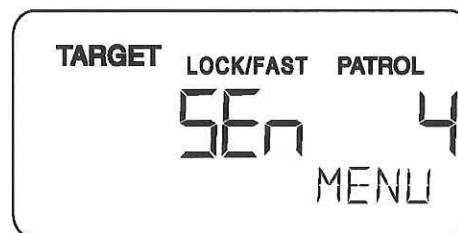

Fig. 3
The sensitivity of **STALKER II** is adjusted by pressing the **MENU** key a second time. The **▲** and **▼** keys then cycle through the five (5) sensitivity levels: **SEN 0**, **SEN 1**, **SEN 2**, **SEN 3**, and **SEN 4** (Fig. 3 shows sensitivity level 4, the factory default setting). In each case, the right-hand display refers to the current sensitivity setting. Sensitivity varies from **SEN 0** (0 range) to **SEN 4** (maximum range). Press the trigger to exit the Operator Menu.